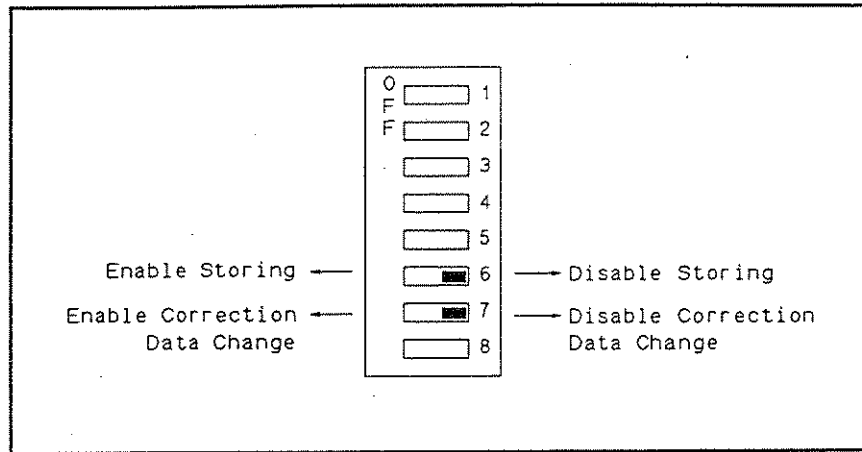

Figure D-2. Write Protection Switch
8. Set A7S3-6 to the right-most position (ON) to disable HP 4285A's STORE function. Set A7S3-6 to the left-most position (OFF) to enable storing. Refer to Figure D-2.
9. Set A7S3-7 to the right-most position (ON) to disable to change all of the correction settings on the *CORRECTION* page. Set A7S3-7 to the left-most position (OFF) to enable to change all of the correction settings on the *CORRECTION* page. Refer to Figure D-2.